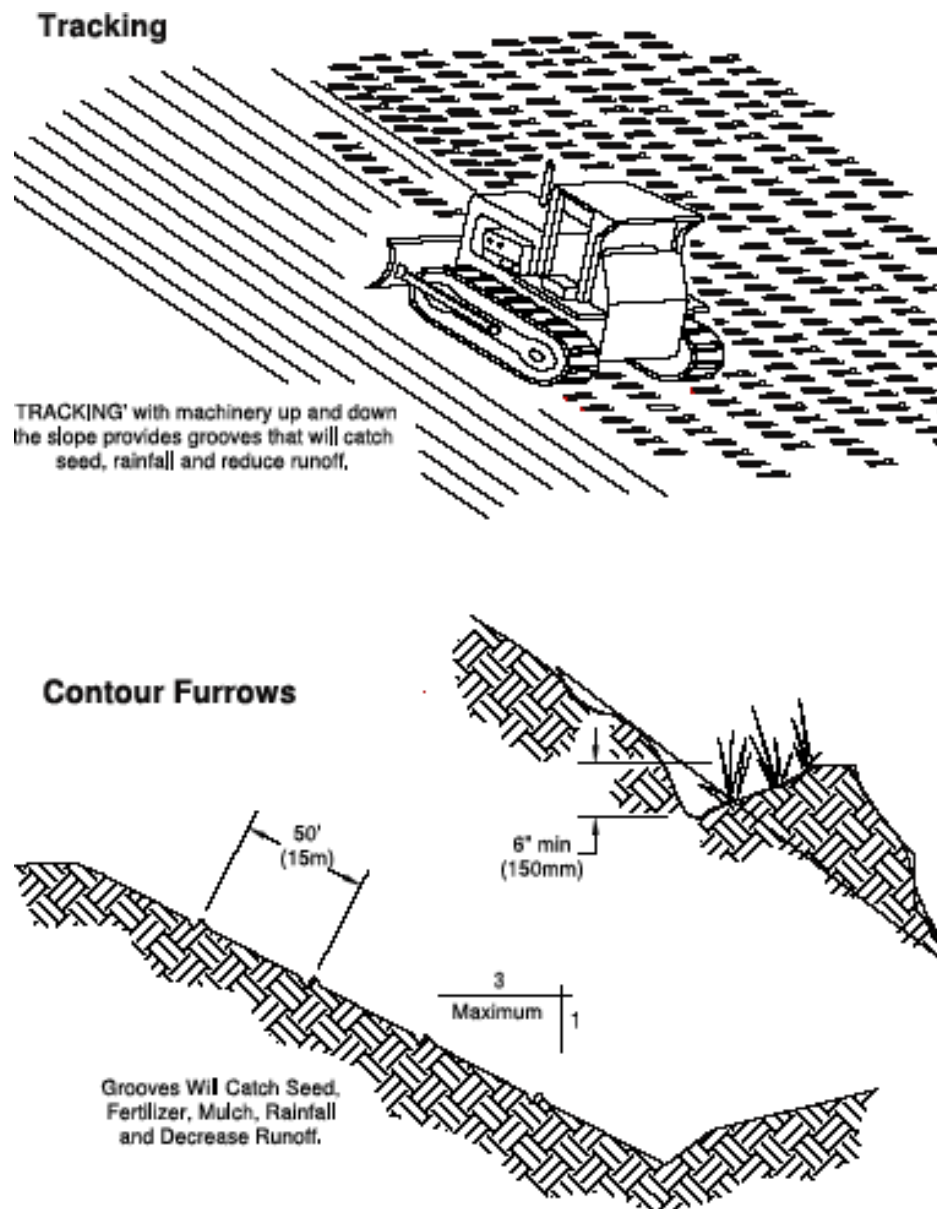

Figure 3. Examples of tracking and contour furrows.
- **Tracking** is done by operating equipment up and down the slope to leave horizontal depressions in the soil (Figure 3).
- **Contour Furrows** are created by terracing a slope at grade (Figure 3).